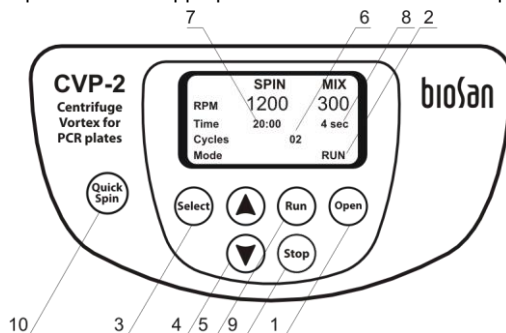

Fig. 2. Front panel
- 4.2. Press the **Open** key (fig. 2/1) and open the lid by lifting it upwards by hand (indication "OPEN" will appear in the Mode bottom line, fig. 2/2). Lid will open only with rotor stopped.
Press the **QS** (fig. 2/10) button for quick mixing / sedimentation and hold it pressed for the desired time. The unit will automatically when the **QS** button is released.
- 4.7.1. By pressing **Select** key (fig. 2/3) choose a parameter to change. Each pressing of the **Select** key consecutively activates parameters in operation cycle, currently active parameter is indicated by blinking.
- 4.7.2. Use ▼ and ▲ keys (fig. 2/4) for setting the corresponding values (pressing a key for longer than 2 seconds will increase change rate).
- 4.12. Press **Run** key (fig. 2/5) to start operation.
- 4.13. Rotor will begin rotating and on the display, indication **RUN** (fig. 2/2), cycle countdown (fig. 2/6) and changing parameters of the current mode (fig. 2/7 and fig. 2/8).
- 4.14. Operation can be stopped before the set number of cycles elapses if necessary by pressing the **Stop** key (fig. 2/9).
- 4.15. Unit stops automatically after executing set number of cycles (blinking indication **STOP** (fig. 2/2) on the display) and the lid unlocks automatically. A sound signal is emitted after full stop of the rotor. Press **Stop** key (fig. 2/9) to stop the signal.